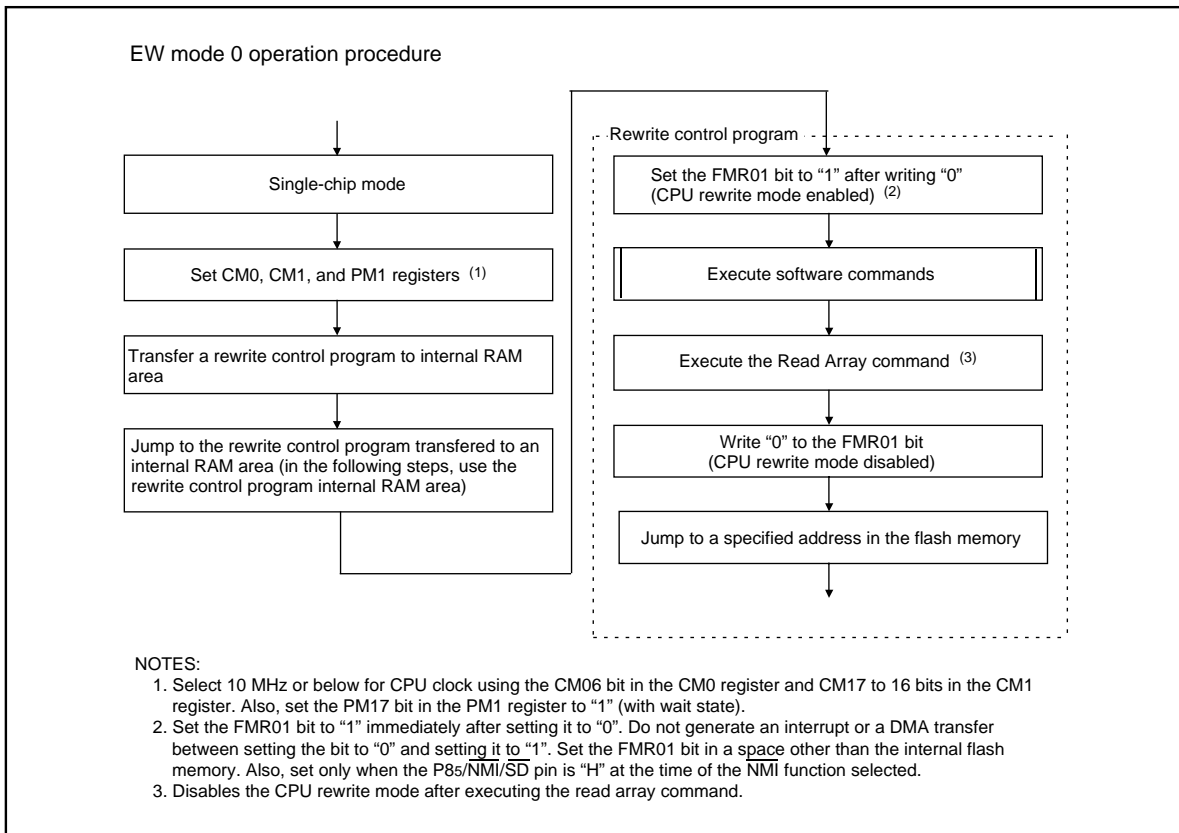
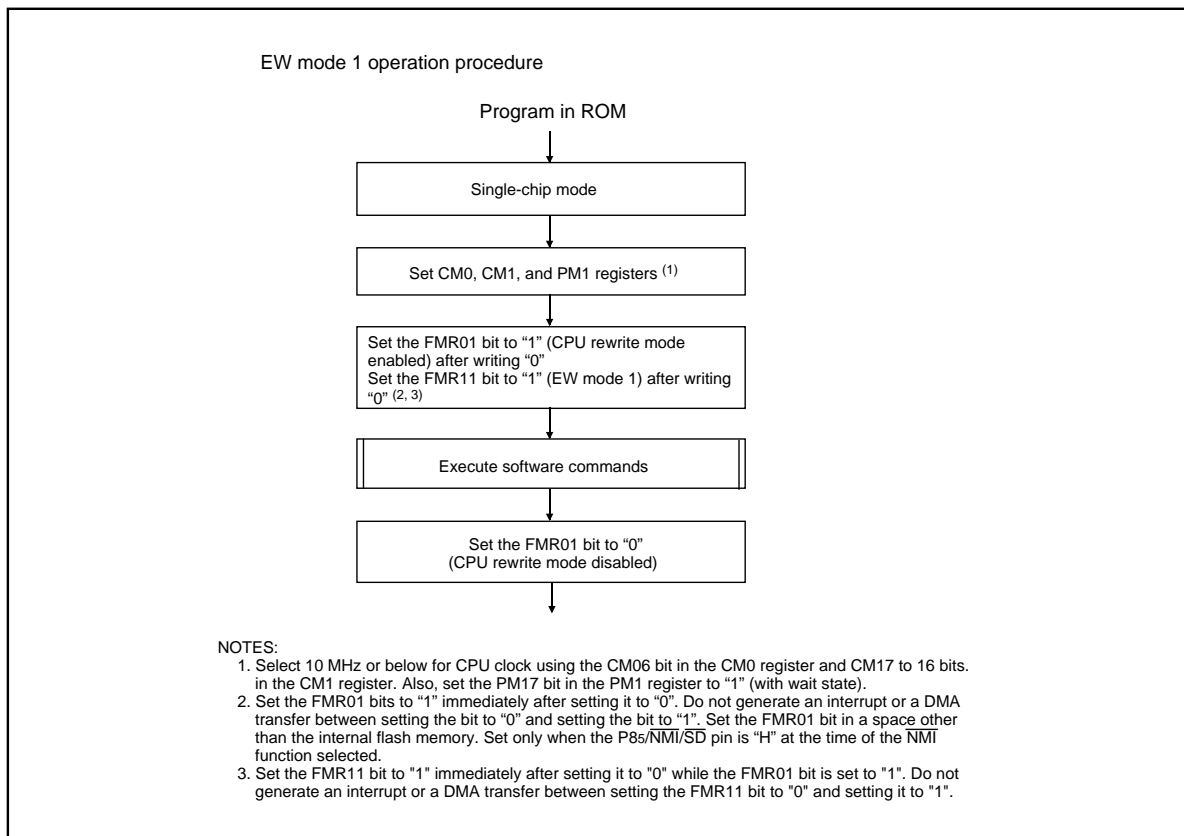

Figure 18.9 Setting and Resetting of EW Mode 0
Figure 18.10 Setting and Resetting of EW Mode 1
**Figure 18.9** shows a EW mode 0 set/reset flowchart, **Figure 18.10** shows a EW mode 1 set/reset flowchart.